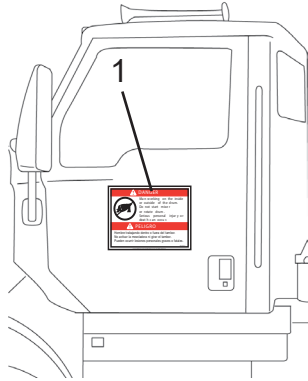

Figure 3
12. Place magnetic “DANGER” signs (Figure 3, Item 1) on both doors: “Man working on drum. Do not start Mixer or rotate drum. Serious personal injury or death can occur.”